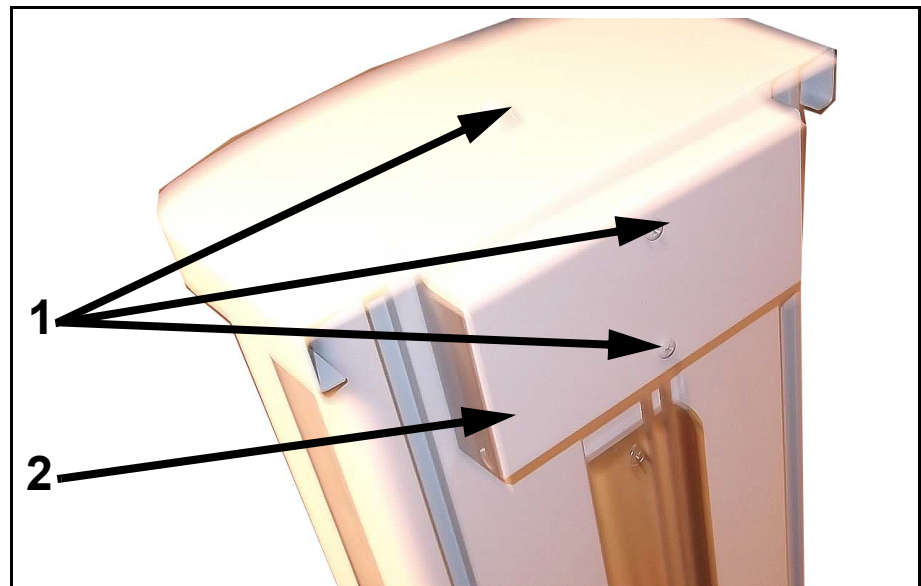

Figure 6-3. Top Cover
- 5 Unscrew the top cover screws (1 in Figure 6-3) and remove the top covers (2).